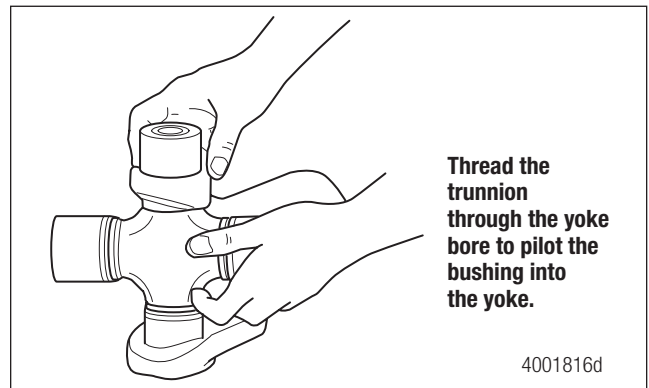

Figure 5.21
- Position the second bushing onto the trunnion by threading the cross through the yoke bore as shown. Figure 5.21.